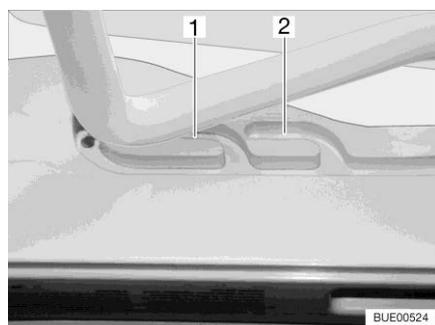
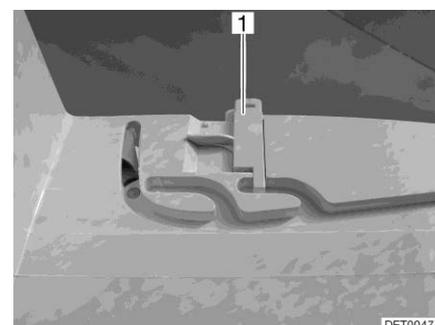

Fig. 121 Guide (ventilation position)
Fig. 122 Lock (ventilation position)
The Heki skylight can be put in two ventilation positions: Bad weather position (Fig. 121,1) and central position (Fig. 121,2). Depending on the model, the skylight can be locked in the central position with both left and right latches (Fig. 122,1) on the skylight frame.
- Push the bar slightly upwards and into the selected guide (Fig. 121,1 or 2) and lock if necessary.